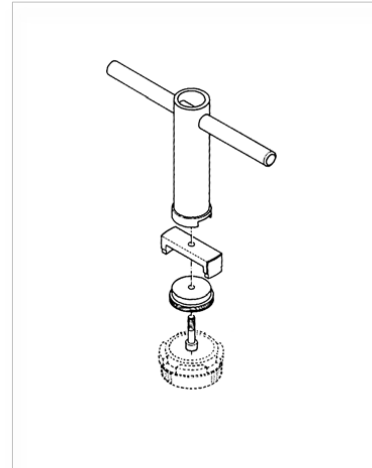

Figure 3: seat ring tool
2. Remove seat ring and fit replacement using a suitable seat ring tool (Figure 3).